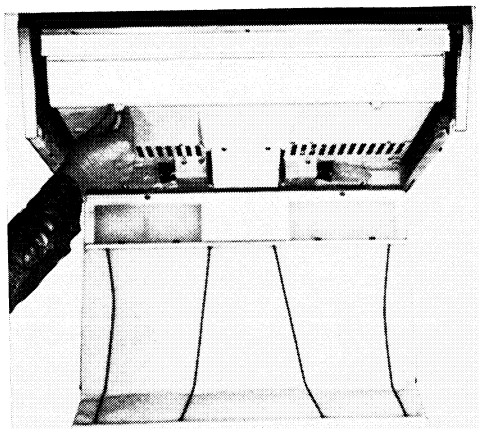
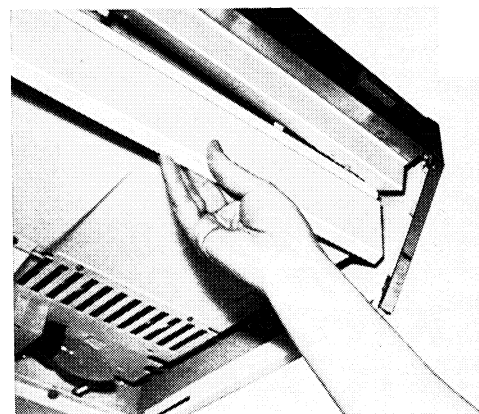

Abb. 12
Abb. 13
d) Remove both knurled screws of the cover of the fresh-air filter unit (fig. 12) and take off cover (fig. 13).